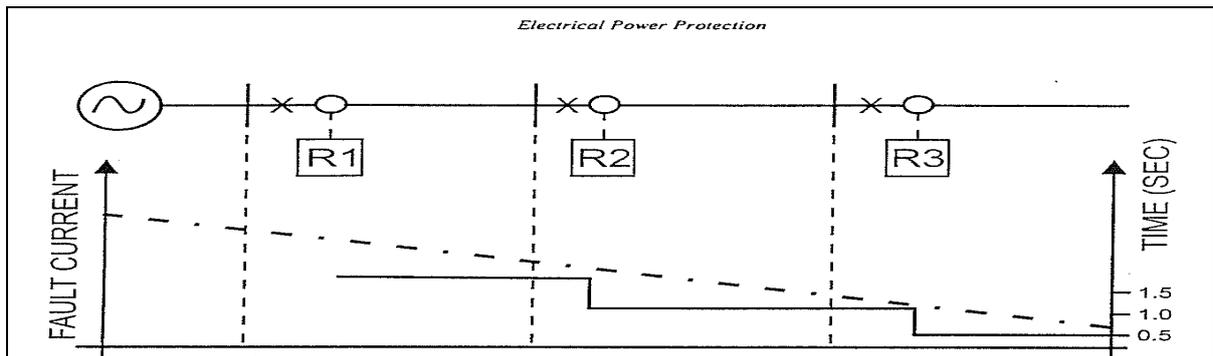

Figure 10.1
- For the first option, the relays are graded using a definite time interval of approximately 0.5 seconds. The relay A at the extremity of the network is set to operate in the fastest possible time, whilst its upstream relay B is set 0.5 seconds higher. Relay operating times increase sequentially at 0.5 second intervals on each section moving back towards the source as shown in Figure 10.1.